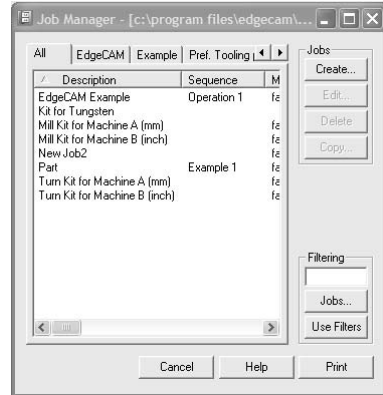

Figure 26
1. *Open the Job Manager by using the Windows start button, select All Programs, EdgeCAM and then Job Manager.* The Job Manager dialog will be displayed similar to Figure 26.